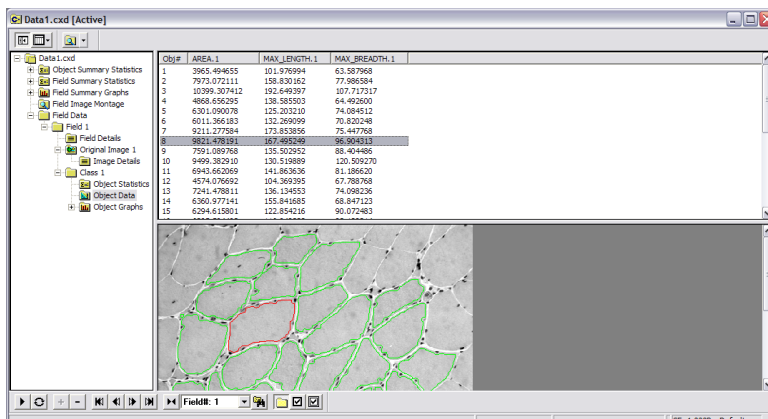

fig.40
13. The data document (**fig.40**) will be displayed, giving access to object summary statistics, object summary graphs, field summary statistics, field summary graphs, field image montage and field data. In this case, the data are reported for the **Area, Max Length, and Max Breadth** of the muscle fibers.